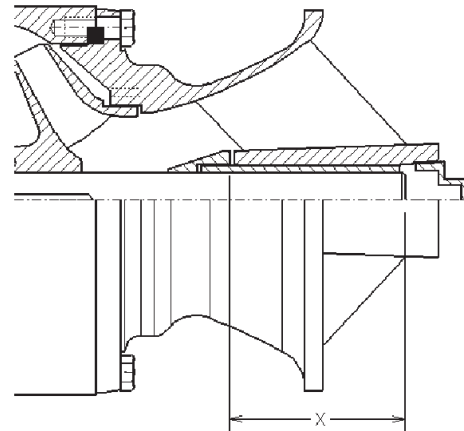

Figure 21
2. If the sand collar is not assembled to the shaft, install the sand collar. The sand collar is attached to the shaft with a shrink fit. The larger diameter of the counterbore of the sand collar goes toward the suction bell bearing. Heat the sand collar until it slips over the shaft and quickly position it so that the bottom of the sand collar is set according to the “X” dimension, before it cools. See Figure 21. See Table 3 for the “X” dimensions. Slide the plain end of the pump shaft into the suction bowl/bell bearing until the sand collar rests against the suction bowl/bell.